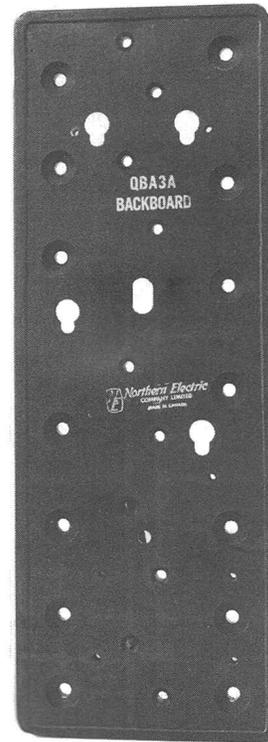

Fig. 4 – QBA3A Backboard for Wall Mounting
4.03 The backboards (Fig. 4 and 5), and the installation apparatus and accessories shown in Tables B through D are not supplied with the set. These items must be ordered separately.